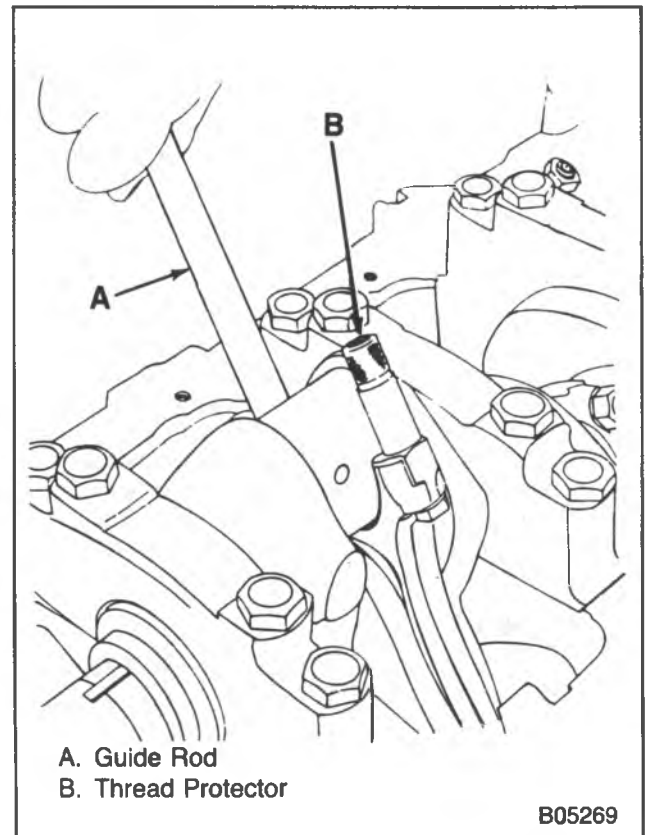
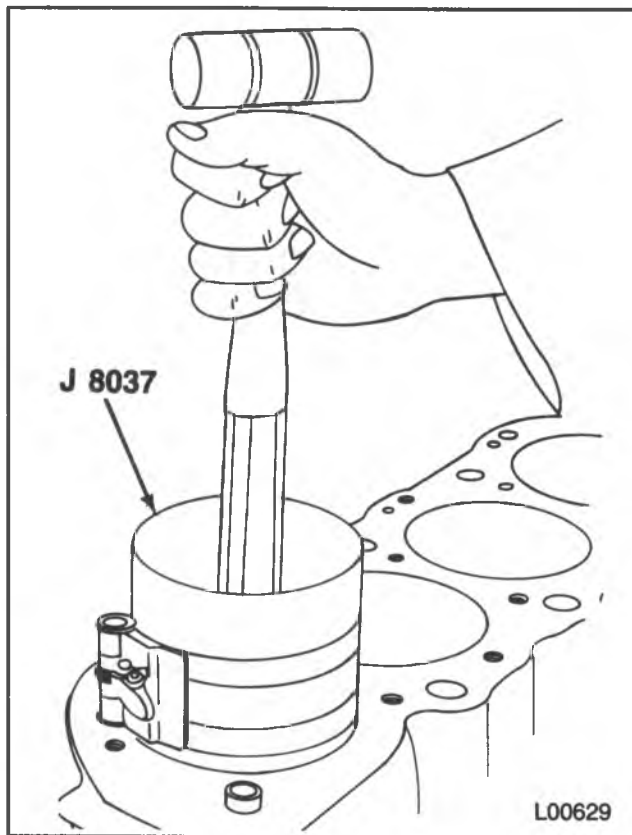

Figure 27 — Replacing the Piston and Connecting Rod
Figure 29 — Installing the Piston
Remove or Disconnect (Figure 27)
- Attach J 5239 to the connecting rod bolts (figure 27).
Install or Connect (Figures 27 through 30)
- Without disturbing the ring end gap location, install J 8037 over the piston (figure 29).
- Place the piston in its matching bore. The connecting rod bearing tang slots must be on the side opposite the camshaft. Using light blows with a hammer handle, tap the piston down into its bore (figure 29). At the same time, from beneath the vehicle, guide the connecting rod to the crankpin with J 5239 (figure 27). Hold the ring compressor against the block until all rings have entered the cylinder bore.